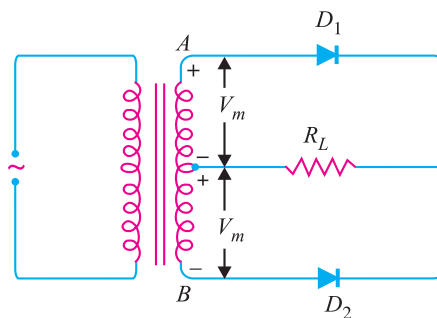

Fig. 6.25
**Peak inverse voltage.** Suppose  $V_m$  is the maximum voltage across the half secondary winding. Fig. 6.25 shows the circuit at the instant secondary voltage reaches its maximum value in the positive direction. At this instant, diode  $D_1$  is conducting while diode  $D_2$  is non-conducting. Therefore, whole of the secondary voltage appears across the non-conducting diode. Consequently, the peak inverse voltage is twice the maximum voltage across the half-secondary winding *i.e.*